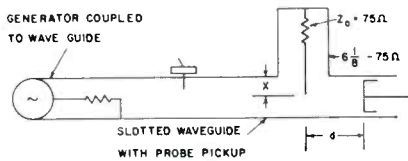

Fig. 12—Experimental setup for matching transformer.
B. *Coax-to-Waveguide Transformer*—The bandwidth requirements were such as to accommodate a six-megacycle television channel. At 500 mc, this is not a very large percentage; therefore, a simple probe-type transformer was used. See Fig. 12.
Fig. 12 is a line sketch of the test setup. A long piece of WR 1500 waveguide was slotted along its broad face, and a track and carriage mounted to make a slotted line. A hole with a bolt circle for a split, the Smith chart gives the components of  $y_l$ ,  $y_r$ ,  $y_l'$  and  $y_r'$ .
over the bullet could be moved on the bullet to vary the dimension "X" of Fig. 12. A sliding short circuit constructed as shown in Fig. 11 could be moved to vary the dimension "d" of Fig. 12.